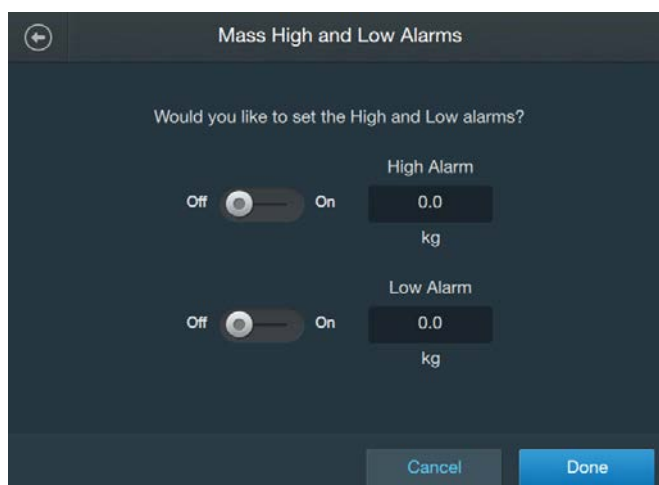

Figure 3.22. High and Low alarms screen.
4. On the screen that appears, there will be separate sections for both High and Low alarms (Figure 3.22). To set up the High alarm, slide the Enable/Disable button to the “Enable” side. In the field under “High Alarm,” enter the mass value that will activate the High alarm.